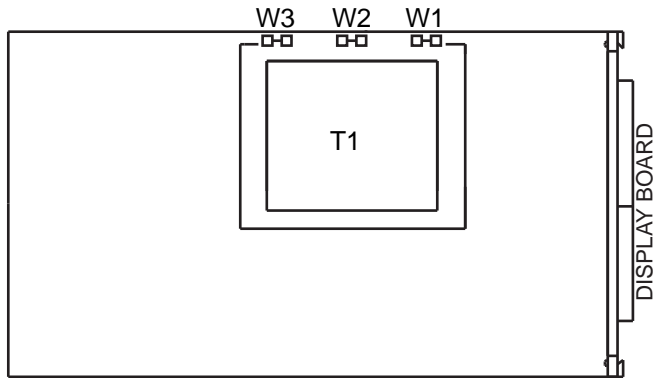

Figure 6-1. Main Board Power Jumpers (W1, W2, W3)
6.4 MAIN BOARD POWER JUMPERS (refer to Figures 6-1 and 6-2)
Figure 6-1 shows the W1 through W3 jumpers on the main board.
Figures 6-1 through 6-3 describe how to connect your sensors.